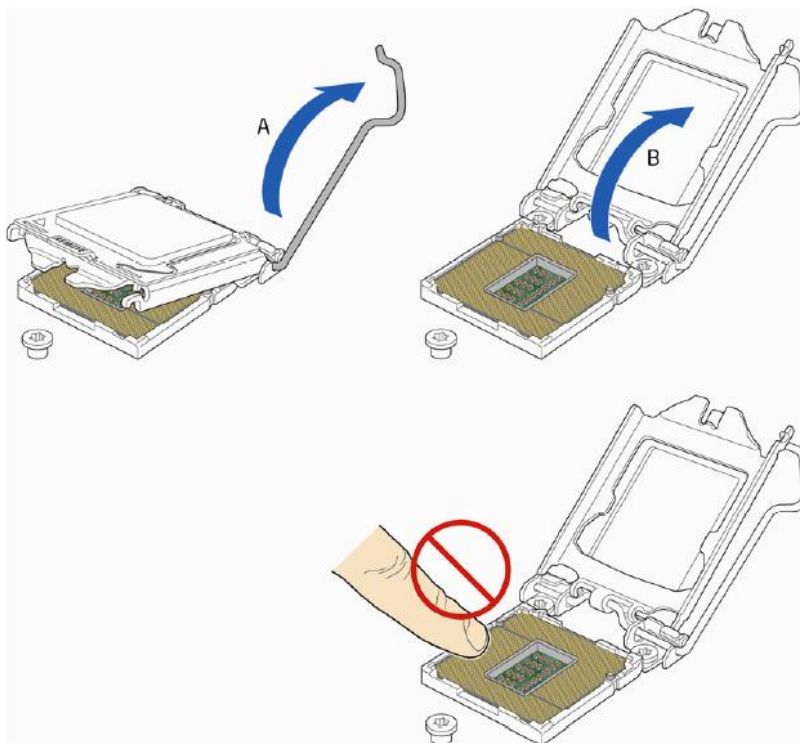

Figure 14: Lift the load plate
2. Rotate the socket lever to lift the load plate away from the socket (Figure 14, A). Make sure that the load plate is in the fully open position (Figure 14, B) while being careful not to damage adjacent components. Do not touch the socket contacts.